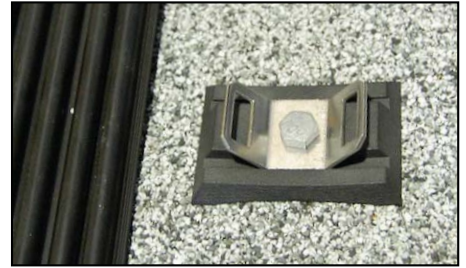

FIGURE 5
2. Drill a pilot hole and apply sealant, then mount the *Flashing Base* and *Hold-Down Strap Bracket*. Slip a *Strap Hold-Down Clamp* (PN 10011) over the end of the strap prior to pulling it through (refer to **Figure 5**).
3. Loop approx. 2" of strap through the *Outlet Header Bracket* and then back through the *Hold-Down Strap Clamp*. Slide the *Hold-Down Strap Clamp* towards the *Hold-Down Strap Bracket*. The screw should be tightened securely, but not over-tightened to the point where the clamp is distorted (refer to **Figure 5**).